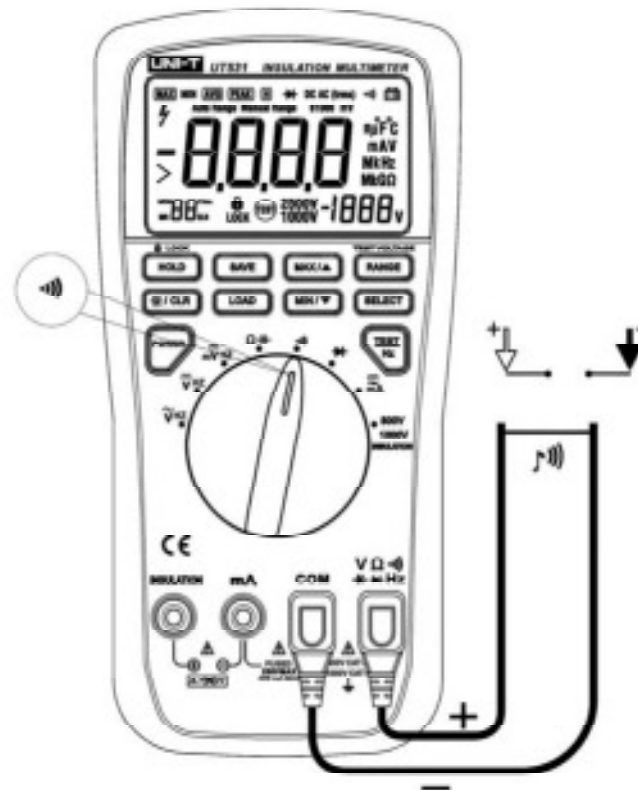

Figure 10. Testing for Continuity
**Testing for Continuity** (see figure 10)